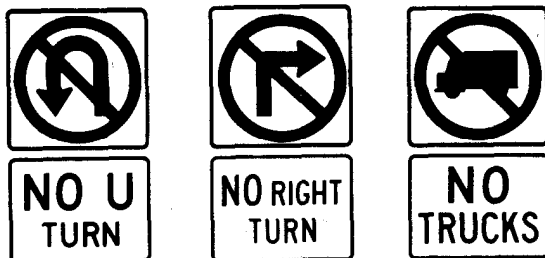

FIGURE 11
e. **Regulatory Signs.** Regulatory signs are red signs (Figure 11) indicating a regulated action such as “No Right Turn,” “Yield,” “Do Not Enter.”